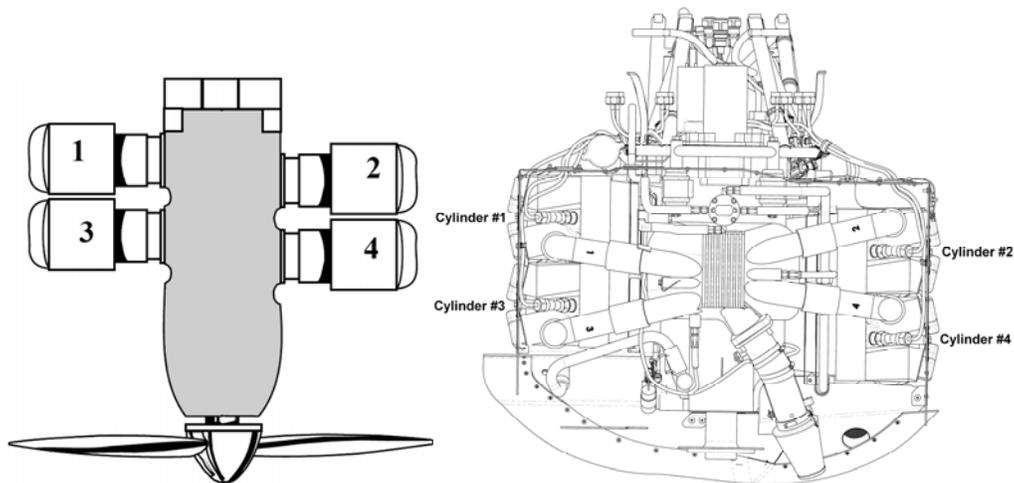

Figure 61-4 Cylinder Numbering
3. Set engine cylinder number one (#1) at top dead center (TDC) compression in accordance with Teledyne Continental Motors Maintenance Manual for IOF-240-B (TCM M-22). For the location of the number one (#1) engine cylinder, see Figure 61-4).